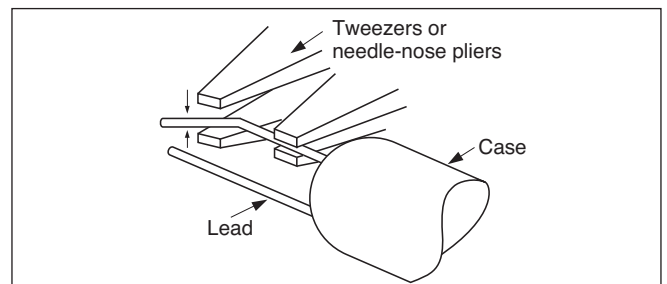

Figure 4
- (2) Unbend the lead by pressing on the bent part from both the upper and lower sides with fixing the bottom of lead tightly (see Figure 4).